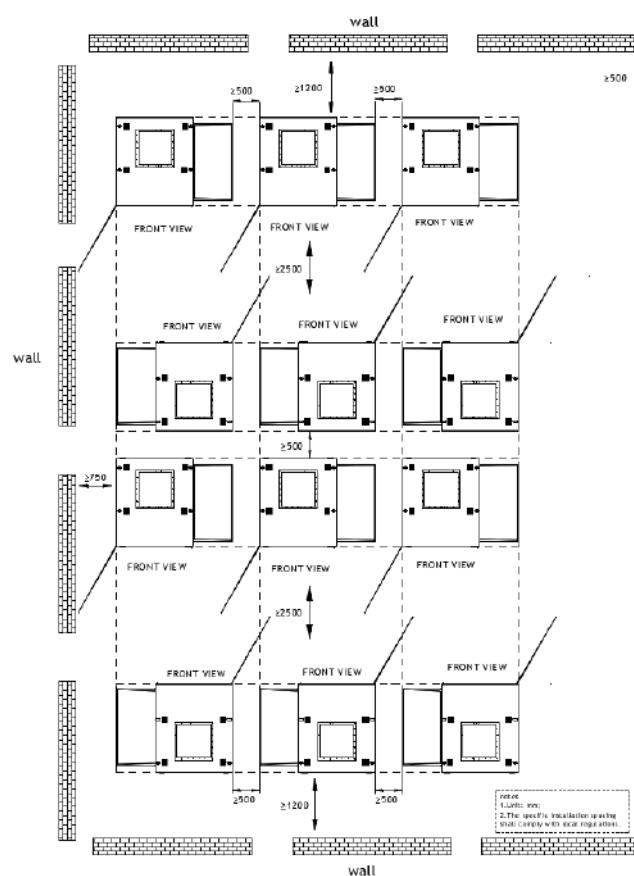

Figure 5-2 Product Installation Distance Requirement
7. Select an open location according to the requirements of Figure 5-2 and ensure there are no obstacles from surrounding areas.